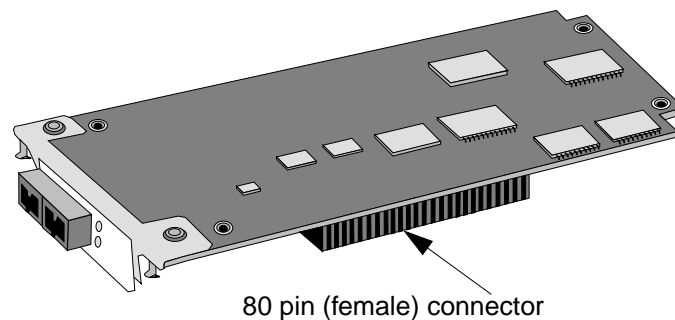

Figure 2-3. An APIM-21
5. Locate the APIM's 80-pin (female) connector (see Figure 2-3).